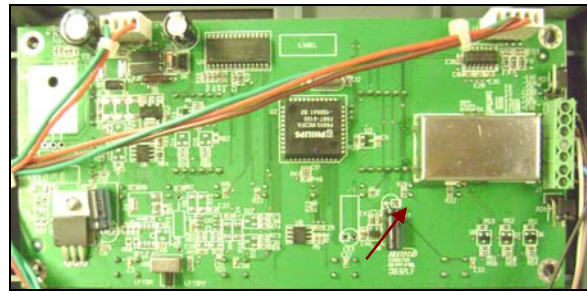

Figure 3-1. Main PCB's AC power supply jack. Place DVM probes into rear sockets.
3. Measure power from Main PCB's AC power supply jack. (See Figure 3-1.) It should read between 6.75 and 6.9